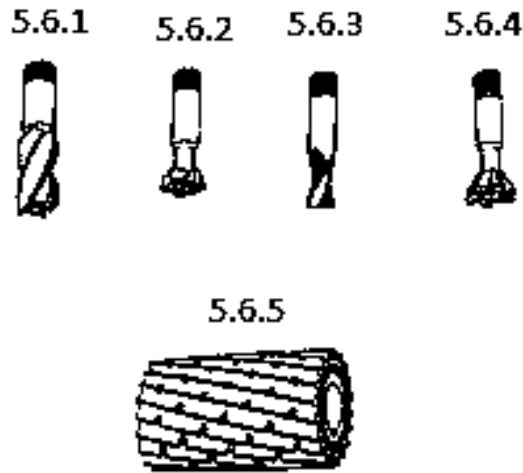

FIGURE 5
5.6 Identify the fitting-and-turning machine cutting tools marked 5.6.1–5.6.5 in FIGURE 5 below.